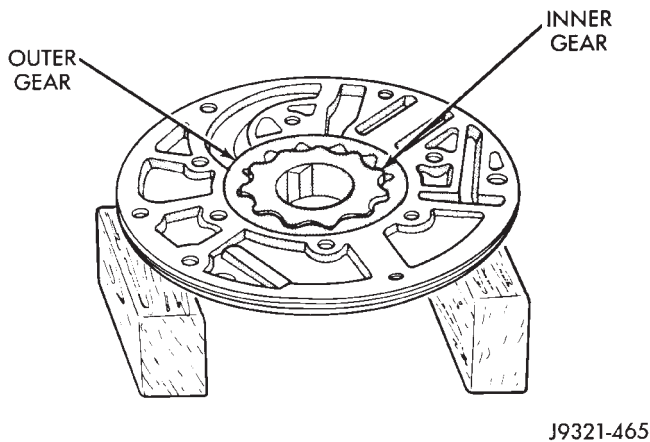

Fig. 155 Pump Inner Gear Installation
(5) Install pump inner gear (Fig. 155).